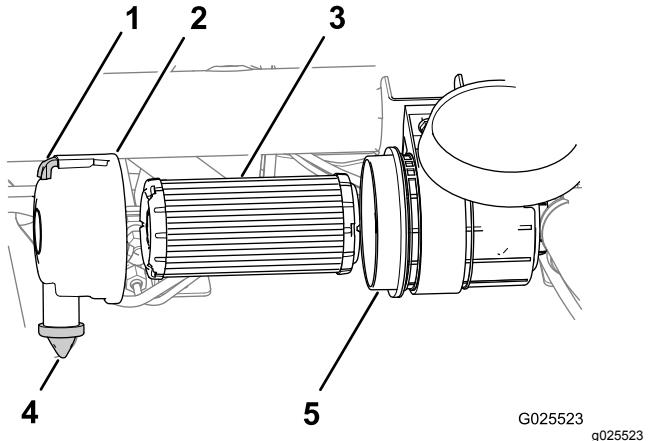

Figure 40
1. Pull the latch outward and rotate the air-filter cover counterclockwise (Figure 40).
- Remove the air filter from the housing (Figure 40).
- Wipe clean the interior of the air-filter cover and housing (Figure 40).
- Remove the rubber dust valve from the cover (Figure 40).
- Clean the dirt-ejection port located in the air-cleaner cover, the dust-valve cavity, and replace the dust valve (Figure 40).
- Insert the new air filter by applying light pressure to the outer rim of the filter to seat it in the air-filter housing (Figure 40).
- Align the air-filter cover with the dust valve at the 6 o'clock position when viewed from the left end of the cover (Figure 40).
- Secure the latch of the air-filter cover (Figure 40).